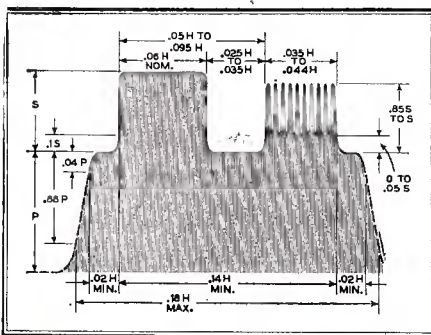

FIG. 2. ENVELOPE OF NTSC COLOR SYNC PULSE
21. The color synchronizing signal is that shown in Fig. 2. This signal corresponds to amplitude modulation of a continuous sine wave of frequency $w/2\pi$